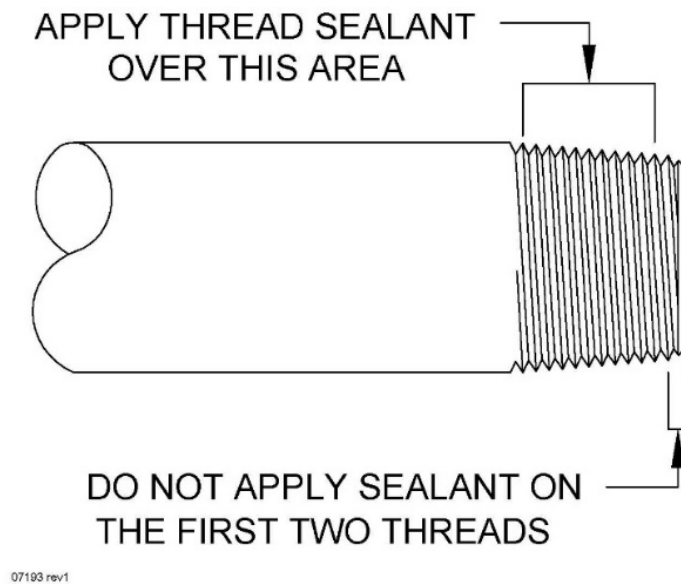

Figure 6 – Applying Thread Sealant
4. Apply Teflon tape, or other thread sealant, on the male connector as illustrated in Figure 6 to minimize fuel line contamination.